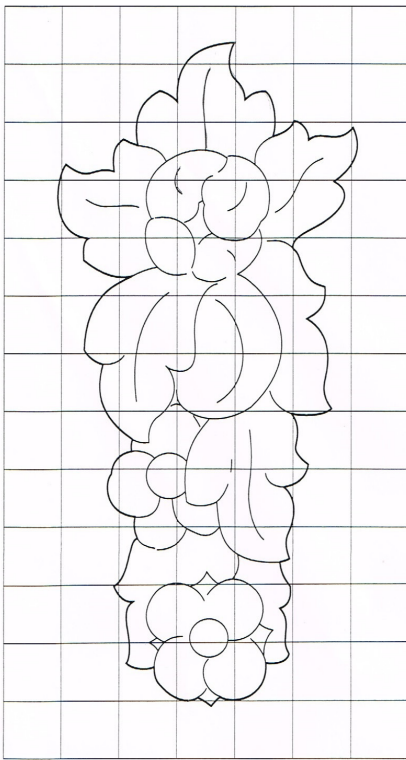

Fig 1
1. Enlarge the drawing in fig 1 to scale, by making sure that each grid of the square measures 20mm.